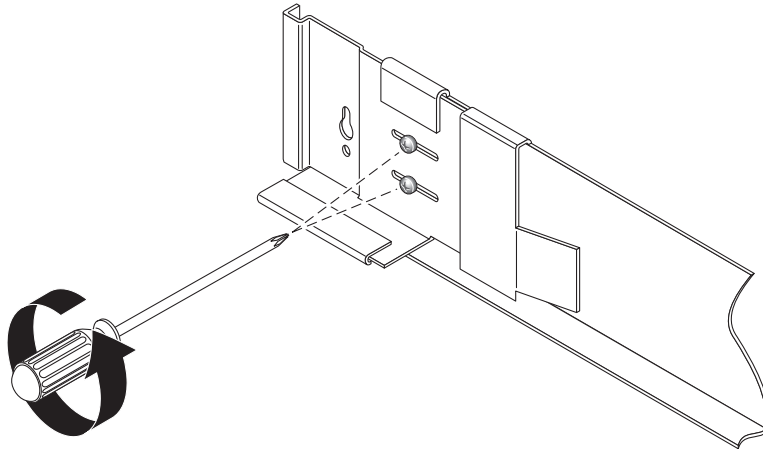

FIGURE 2-1 Loosening the Rail Screws to Adjust the Rail Length
- For the Sun StorEdge Expansion cabinet, use the #2 Phillips screwdriver to loosen the side-rail screws. Adjust each rail to its maximum length (FIGURE 2-1).